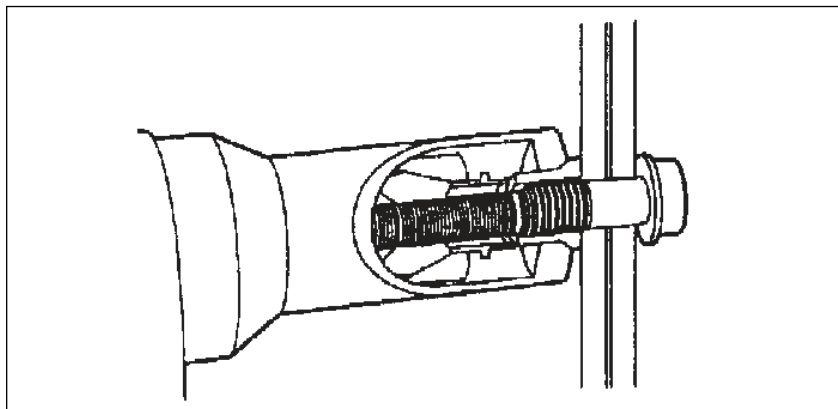
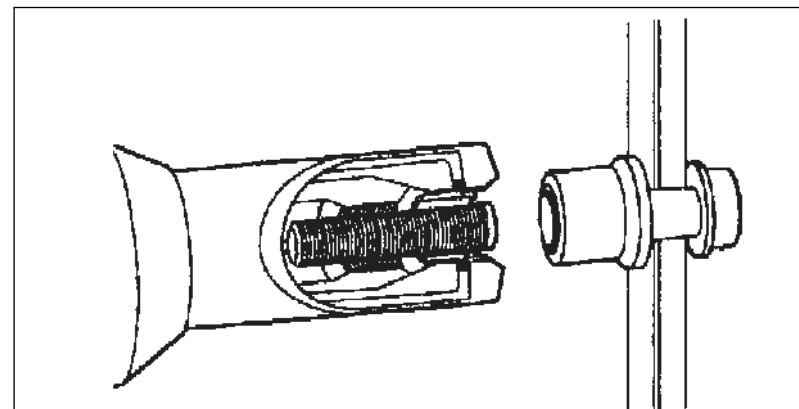

Figure 1.11 Clamping Force is Developed
Figure 1.12 Body of Fastener Separates at Breakneck
**NOTE:** The Huck installation tool creates a pulling force on the fastener, seating the bolt head and closing the gap between the mating surfaces. The collar is swaged into the pintail locking grooves developing clamping force (See Figure 1.11). As pulling forces further increase, the body of the fastener separates at the breakneck (See Figure 1.12), completing installation.